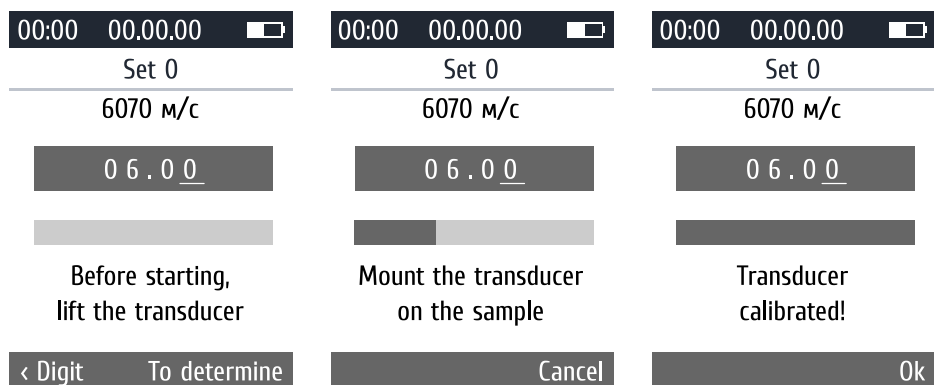

Figure 22
5. Set the thickness of the sample: by pressing the button  to the left (< Digit), select the cell (underlined), and use the buttons   to set the desired values (fig.22).